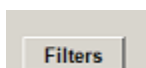
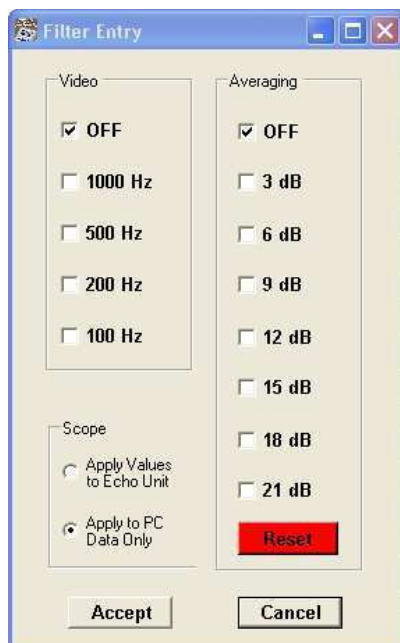

Figure 7-11
Figure 7-12
**Filters** button, figure 7-11, opens the Filters menu shown in figure 7-12. The Filters button will turn green indicating one or more filters has been selected. When a stored plot is presented either from Archived Plots or from the VIA Echo's memory, and filters were on at the time of testing the Filters button will turn green and opening the filters menu will display the filters that were on.